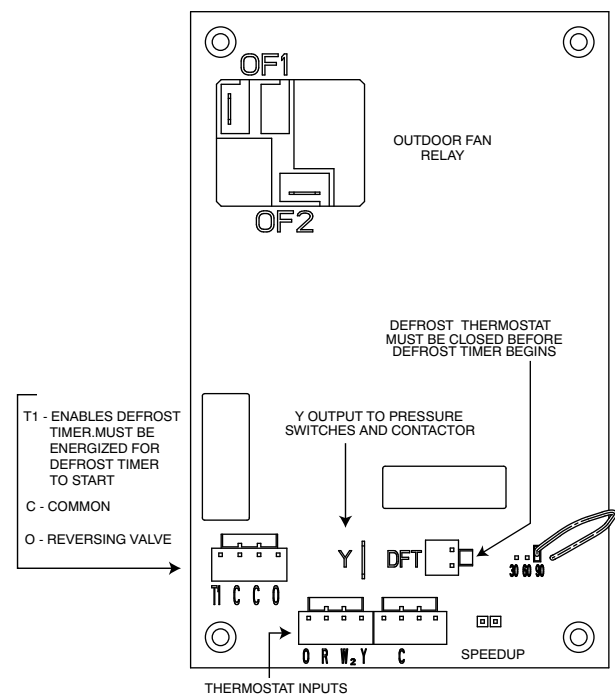

Fig. 9 – HK32EA001/007 Defrost Control
4. Jumper between DFT and R terminals on control board as shown in Fig. 9.